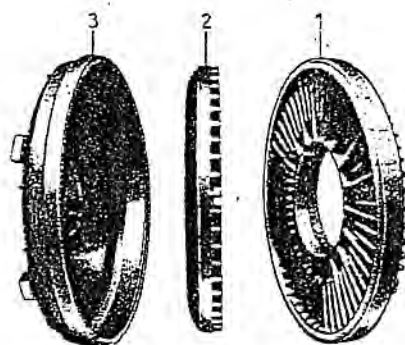

Fig. 25-10/3
nected via the mechanical clutch to the transmission and thus to the rear axle. The constructional form of the two members is shown in Fig. 25-10/3 in which the primary member (1), the secondary member (2) and the clutch end plate (3) are illustrated.